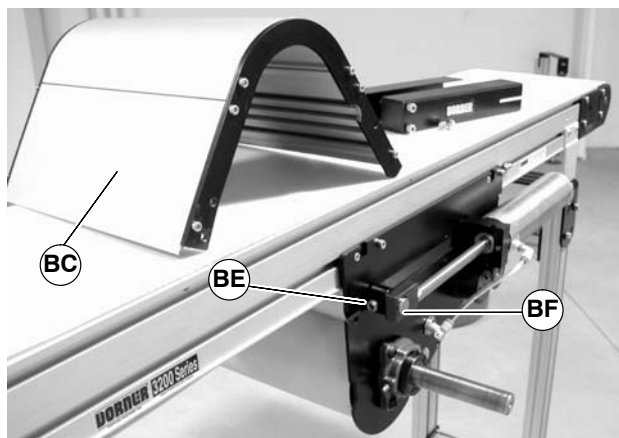

Figure 82
4. Loosen tensioning roller set screws (BE of Figure 82) on one side of center drive.